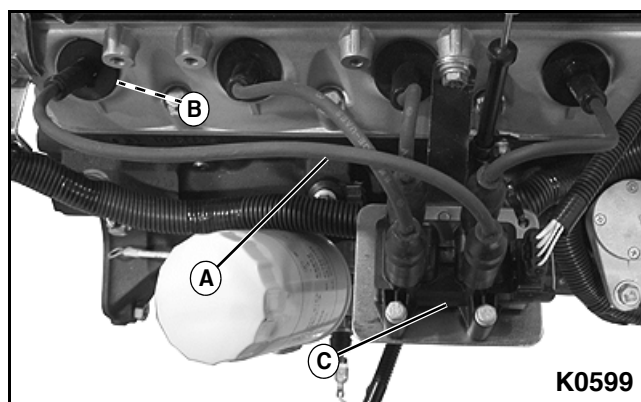

Figure 3-14
2. Firmly grasp ends of ignition wire (A) at spark plug (B) and coil (C). Using a twisting motion, remove wire from spark plug and coil. **See Figure 3-14.**